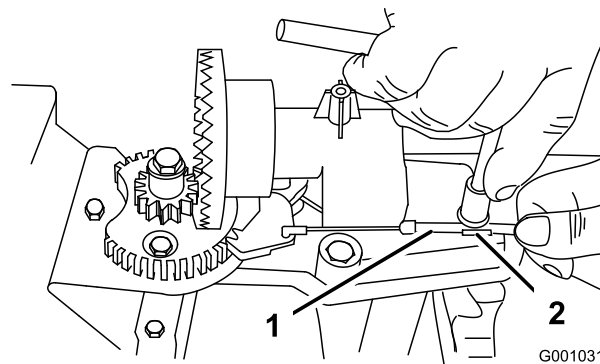
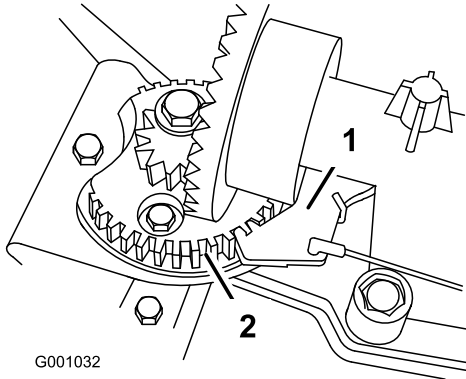

Figure 52
Figure 53
2. Loosen the bolt on the cable clamp (Figure 52).
3. Grasp the cable conduit and move it toward the front of the machine until the discharge-chute latch fully engages the gear teeth (Figure 52 and Figure 53).
Note: The latch is spring loaded and naturally moves into the teeth of the gear (Figure 53).